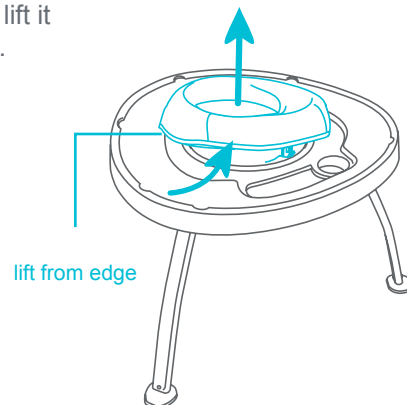

Fig. 2
- 2 • To remove the seat, use the edge of the seat to lift it off the tabletop (Fig. 2).